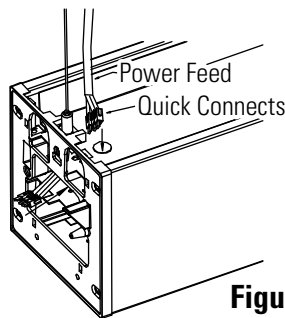

Figure 4
- C. Push the quick connects back into the channel then insert the power cord and connect them together. (Fig. 4 & Fig. 5)